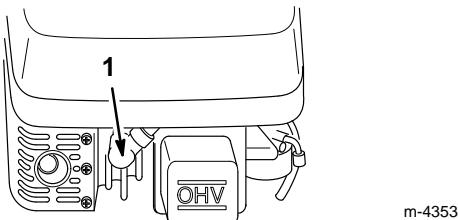

Figure 6
1. Pull the wire off of the spark plug (Fig. 6).
5. Connect the spark plug wire (Fig. 6).
1. Push the spark plug wire onto the spark plug (Fig. 6).
- Pull the wire off of the spark plug (Fig. 6).